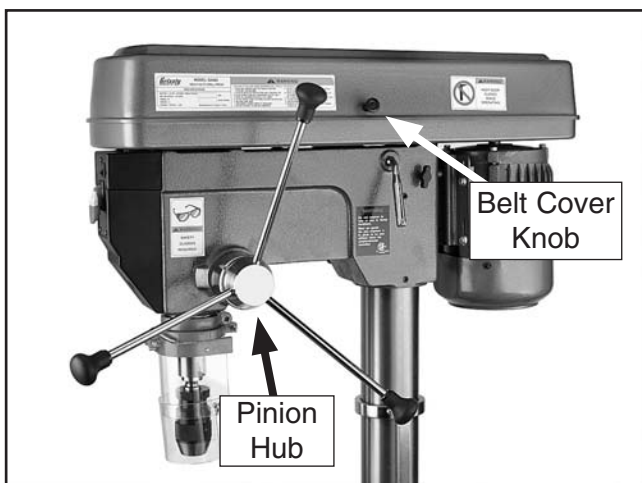

Figure 18. Downfeed handles installed.
1. Thread the downfeed handle knobs onto the handles, and thread the downfeed handles into the pinion hub, as shown in **Figure 18**.
2. Remove the screw that fastens the belt cover in place and install the belt cover knob in its place (see **Figure 18** for location).